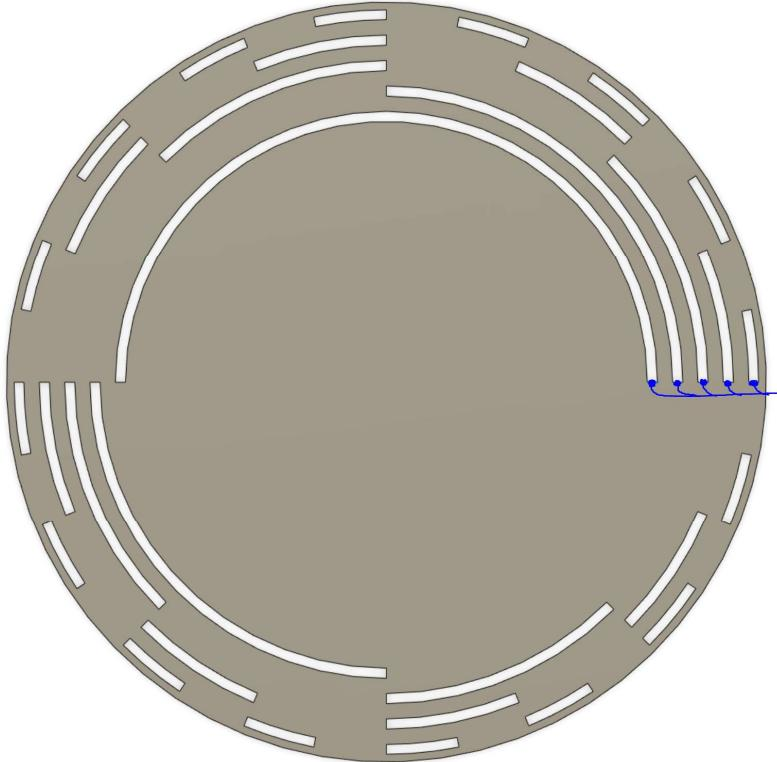

Figure 1.1
- b. In order to monitor the position of the I would first attach the input of each optical sensor to pins three through seven on the Arduino with the least significant bit sensor (the rightmost sensor on Figure 1.1) wired to pin three, the second least significant bit wired to pin four, and so on and so forth. I would then attach an interrupt service routine to pin three that is triggered by both rising and falling edges. I would then follow the pseudo-code found on the next page.